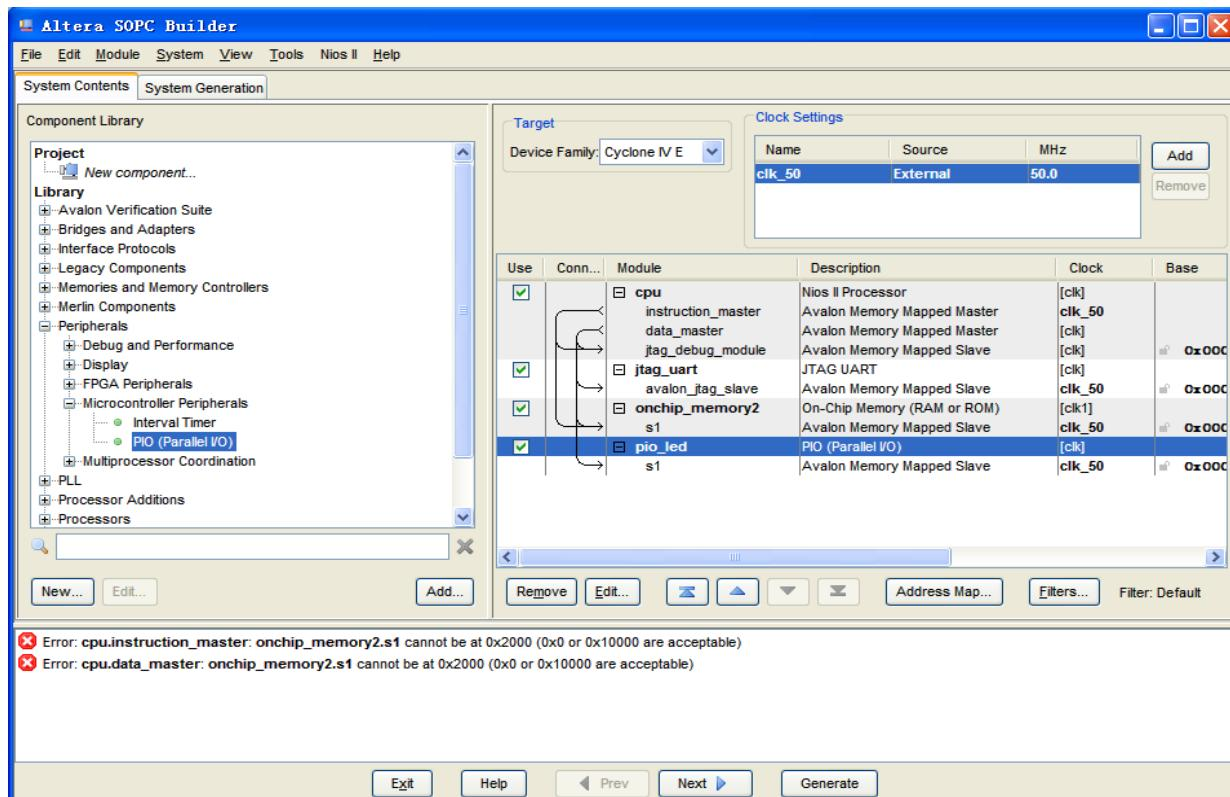

Figure 7-33 Rename PIO
21. Rename pio\_0 to pio\_led as shown in Figure 7-33.